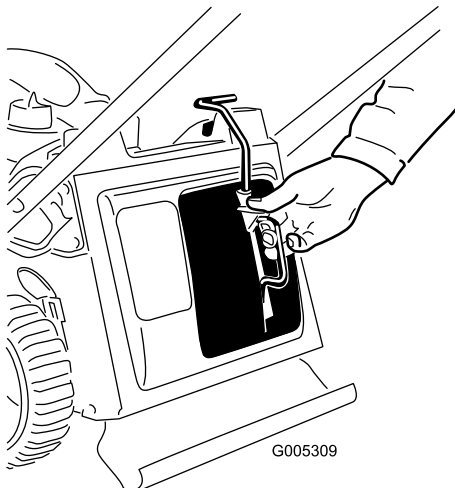
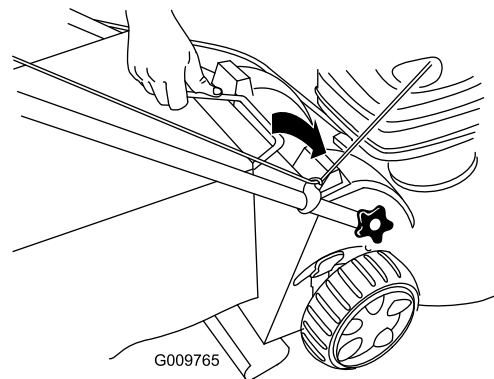

Figure 15
Figure 16
1. Install the mulch plug (Figure 15) or the grass bag (Figure 16) on the machine.